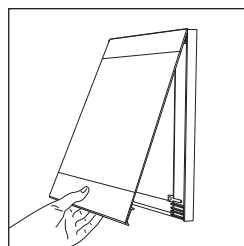

Fig.1
1. Hang top edge of insert on Clips. (Fig. 1)